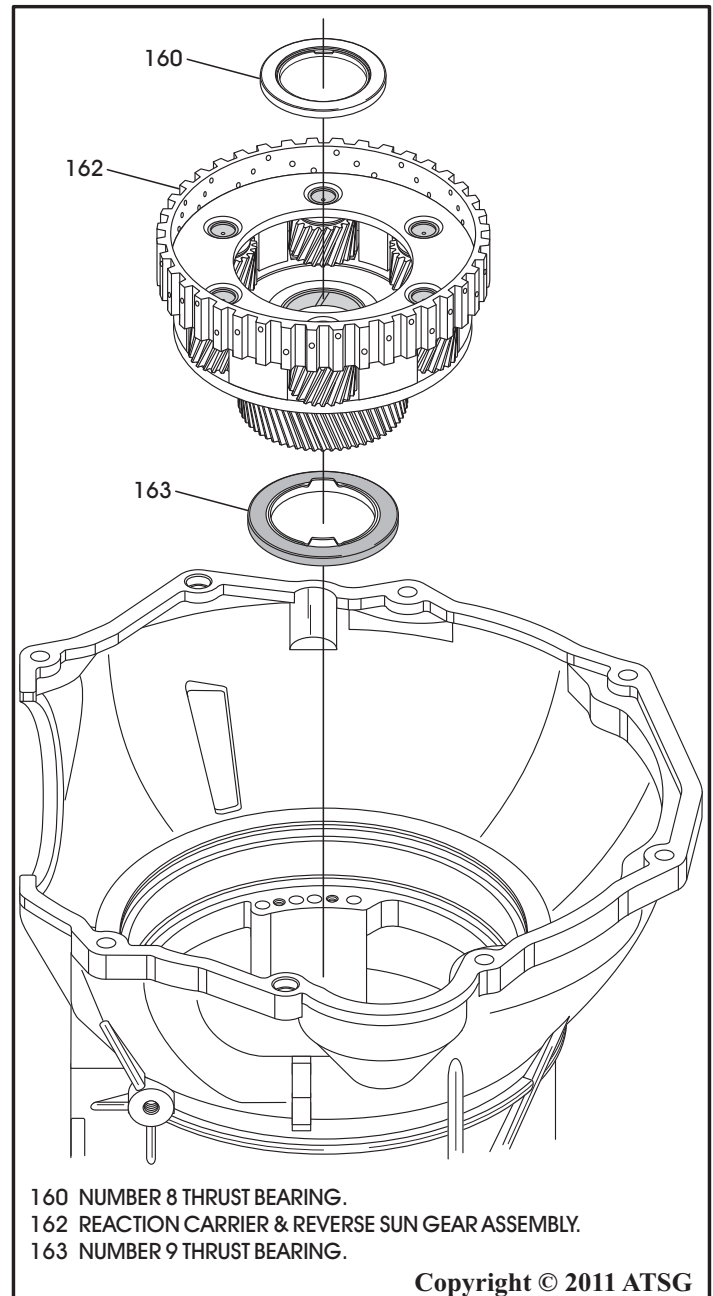

Figure 51
38. Remove the number 8 thrust bearing and the reaction carrier/reverse sun gear, as shown in Figure 51.
39. Remove the number 9 thrust bearing, as shown in Figure 51.